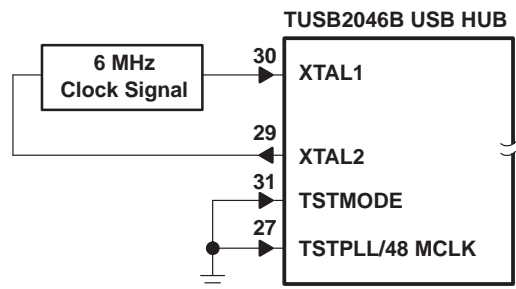

Figure 7. 6-MHz Input Clock Configuration
- A 6-MHz input clock configuration is shown in Figure 7. In this mode, both TSTMODE and TSTPLL/48MCLK terminals must be tied to ground. The hub is configured to use the 6 MHz clock on pin 30 and 29, which are XTAL1 and XTAL2 respectively on TUSB2046B. This is identical to the TUSB2046.